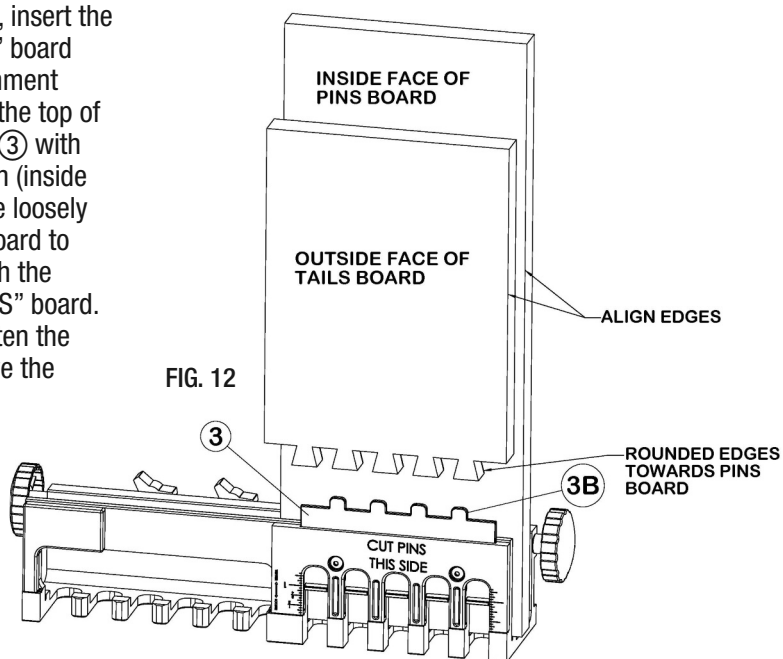

FIG. 12
9. To align the edges, insert the tails of the “TAILS” board into the Edge Alignment Teeth ^{3B} teeth on the top of the Adjuster plate ³ with the rounded side in (inside face), and slide the loosely clamped “PINS” board to align its edges with the edges of the “TAILS” board. Now securely tighten the clamps and remove the “TAILS” board (FIG. 12).